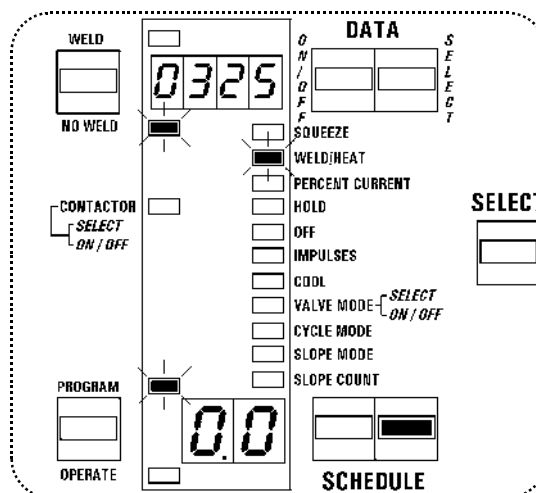

Figure 7.3 Program weld count
5. Press the SCHEDULE push buttons to find [**0.0**] in the SCHEDULE display, Fig. 7.3.